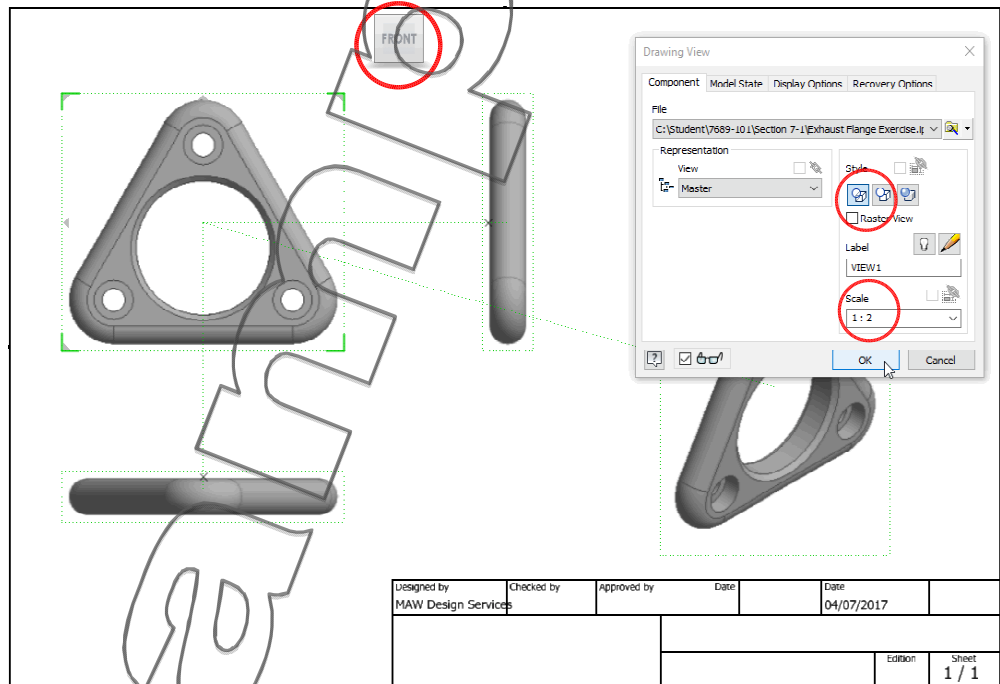

Figure 04 Base View
- In the dialog box, ensure the **Scale** is set to **half-size (1/2)** by selecting from the drop-down list (if necessary) and ensure **Hidden Line** is selected under **Style**, then drag this **Front View** (VIEW 1) of the **Exhaust Flange** to a similar position to that shown in Figure 04 and click **OK**.